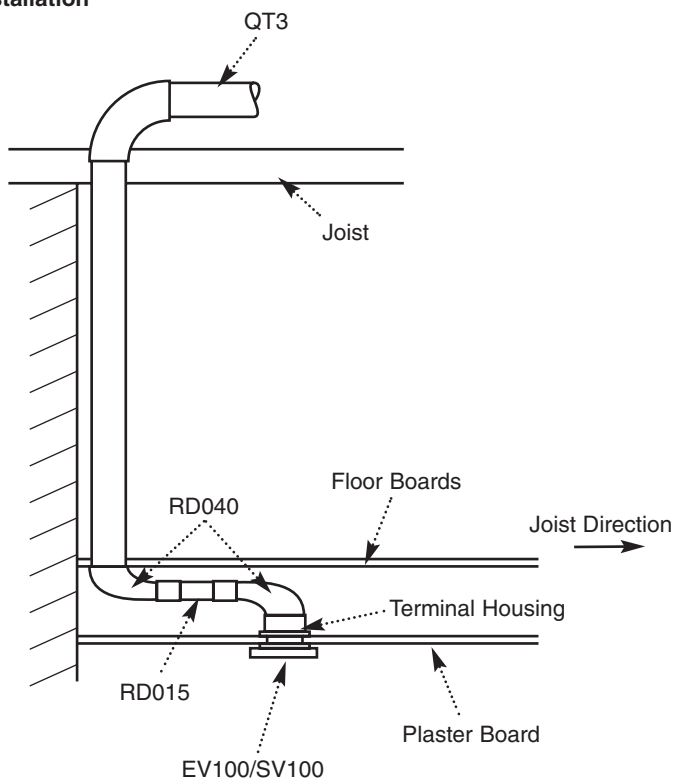

Fig. 13
6. Fix in position all vertical supply and extract air ducting being conveyed between ground floor ceiling level and the loft space (Fig 13).